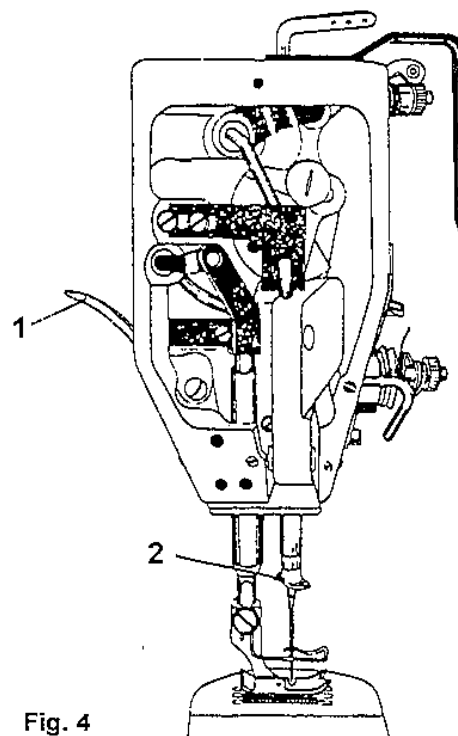

Fig. 4
6. To lift the presser foot (Fig. 4)
8. To insert the needle (Fig. 4)